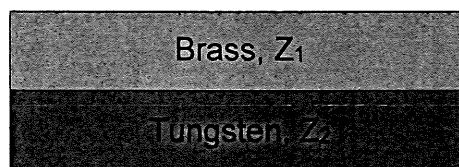

Figure 1
- c) Acoustic impedance (Z) is the resistance of a material to the passage of ultrasound. Figure 1 shows the test sample. Calculate the followings percentage of sound energy reflected and transmitted at Brass (Z_1) to Tungsten (Z_2) interface. (5 marks)